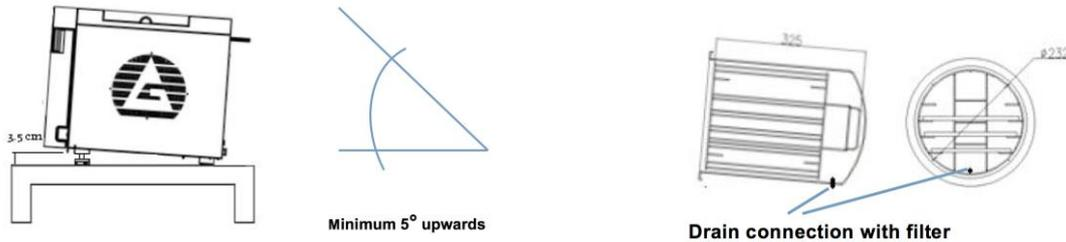

Figure 3f
- ❖ The sterilizer should be placed on a flat surface area; the front-end should be raised minimum 5° (or 3.5 cm) higher than the back-end. **(Figure 3f)**